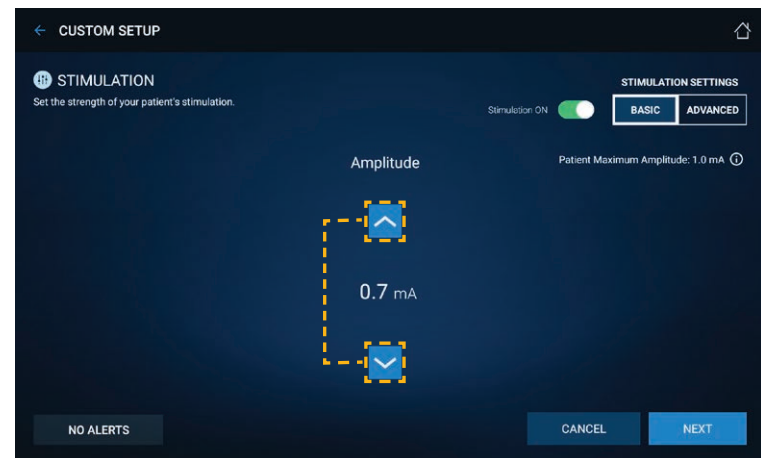

Figure 17. Custom Setup: Basic Stimulation screen
5. Use the arrow buttons to set the amplitude (Figure 17). Tap the arrow buttons to adjust the amplitude by 0.1 mA; press and hold the arrow buttons to adjust the amplitude by 1.0 mA.